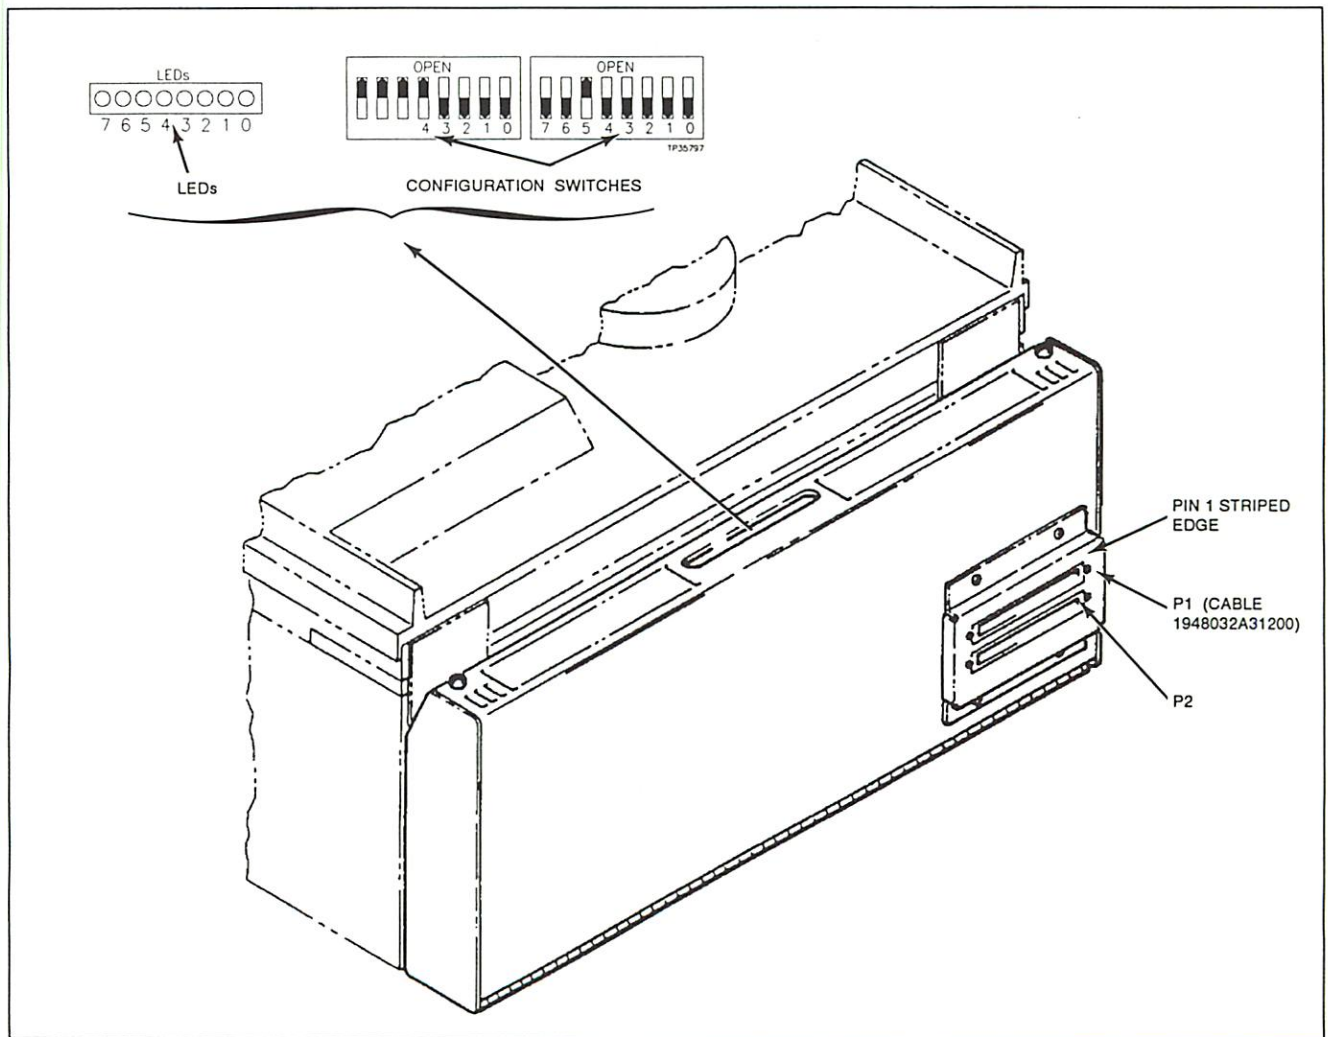

Figure 4-9. LED and Switch Location
2. Orient tapered edge of CSC-100 to view LEDs at left and DIP switches to their right (Figure 4-9). Set ID switches one through four open (up), and switch five of right most switch open.